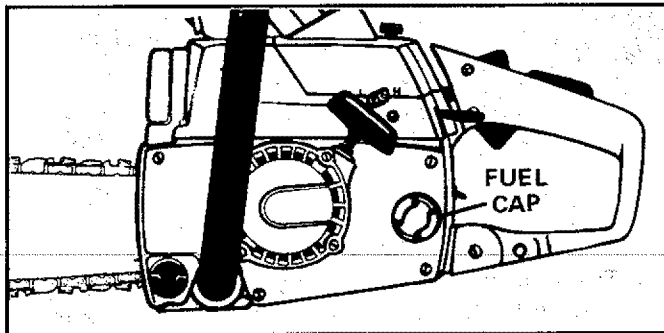

Figure 11
- Avoid over filling the fuel tank. Allow 3/4 inch for expansion. Tighten Fuel Cap securely. Figure 11.